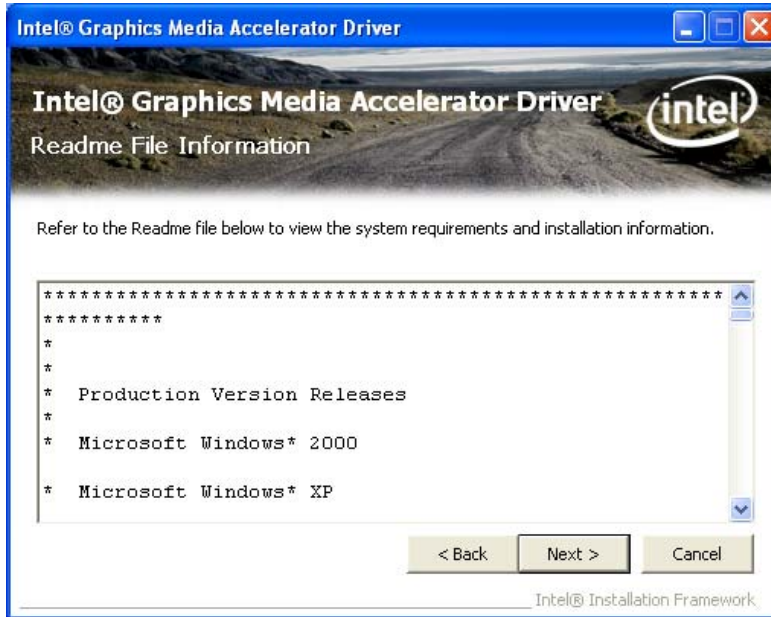

Figure 6-12: VGA Driver Readme File
Step 12: The Readme File in **Figure 6-12** appears.